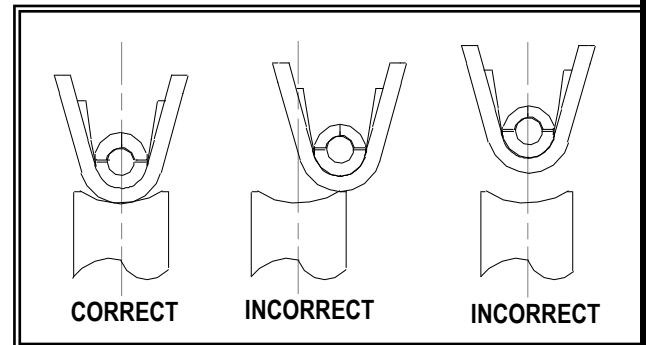

Figure 6
1. Place the replacement locator on the hand tool. Install the M4 BHCS. See Figure 6.
4. With hand pressure, slowly slide the locator to the correct position. See Figure 6.